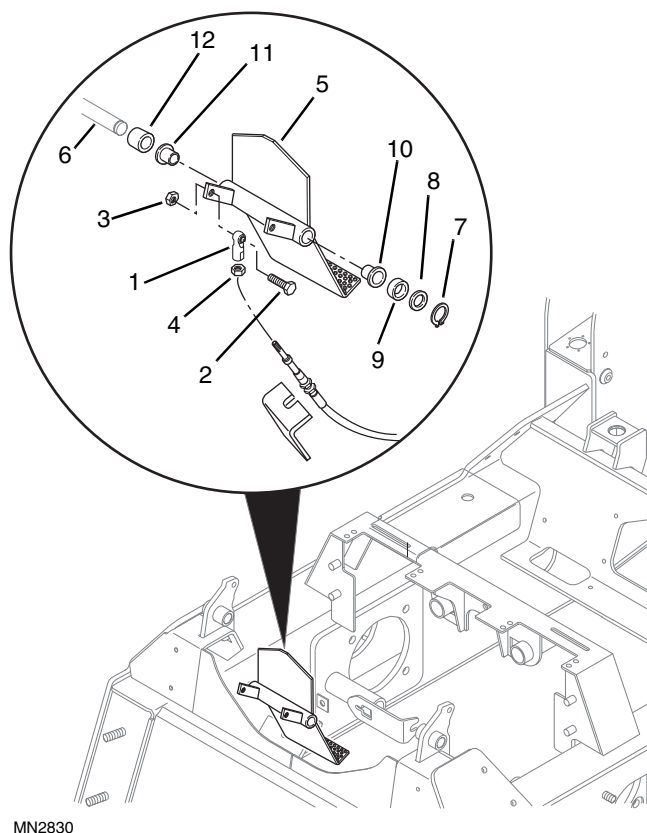

Figure 7-58 Foot Pedal Mounting
2. Remove the cable end ball joint (Fig. 7-58, 1) from the foot pedal by loosening and removing the elastic locknut (3) and capscrew (2).
3. Remove the foot pedal (Fig. 7-58, 5) from its mounting pin (6) by removing retaining ring (7), shim washer (8), spacer bushing (9 - see note below) and flange bushing (10).
Note: *On Model 1750D and 2000D/DX, spacer bushing (Fig. 7-58, 9) is only used on S/N 1750/2000 -101314 & after.*
4. The pedal (Fig. 7-58, 5) can then be slid off the mounting pin (6). Remove the remaining flange bushing (11) and spacer bushing (12).
3. Inspect flange bushings (Fig. 7-58, 10 & 11) for wear or damage.
1. Install the spacer bushing (Fig. 7-58, 12) on the pedal mounting pin. Insert a flange bushing (10 & 11) into each side of the foot pedal.
2. Slide the foot pedal (Fig. 7-58, 5) onto its mounting pin (6).
3. On Model 1750D and 2000D/DX; S/N 1750/2000 - 101314 & after only: slide the spacer bushing (Fig. 7-58, 9) onto the mounting pin (6).
4. Slide the shim washer (Fig. 7-58, 8) onto the pin (6), and secure by installing the retaining ring (7) into the groove on the end of the pin.